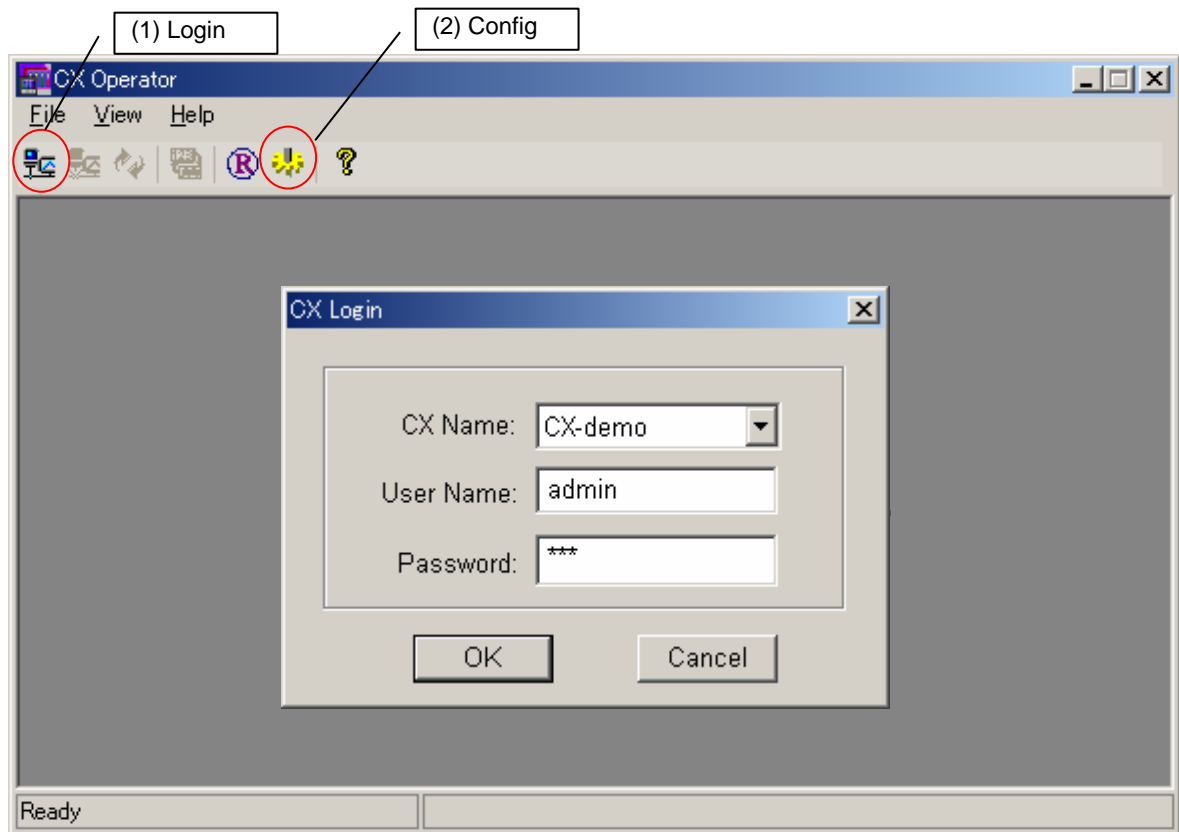

Figure 2 CX IP address setting
Set communication cycle between CX and “CX Operator”: click (2) icon in figure 2 or select “Config” from file menu. Unit for communication cycle is m sec.